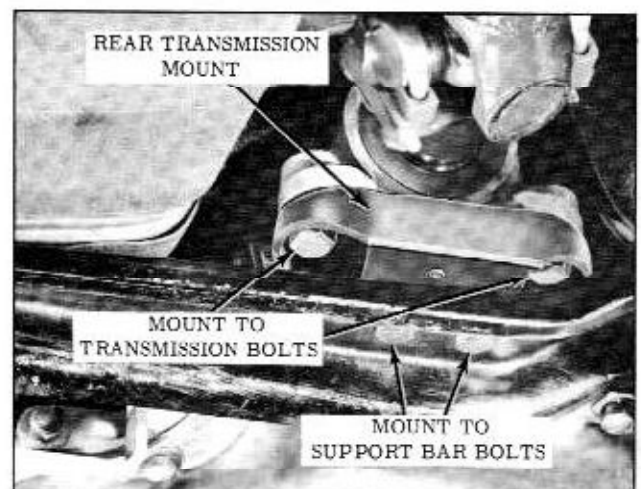

Fig. 10-6 Rear Transmission Mount
5. Remove rear transmission mount and support bar. (Fig. 10-6)